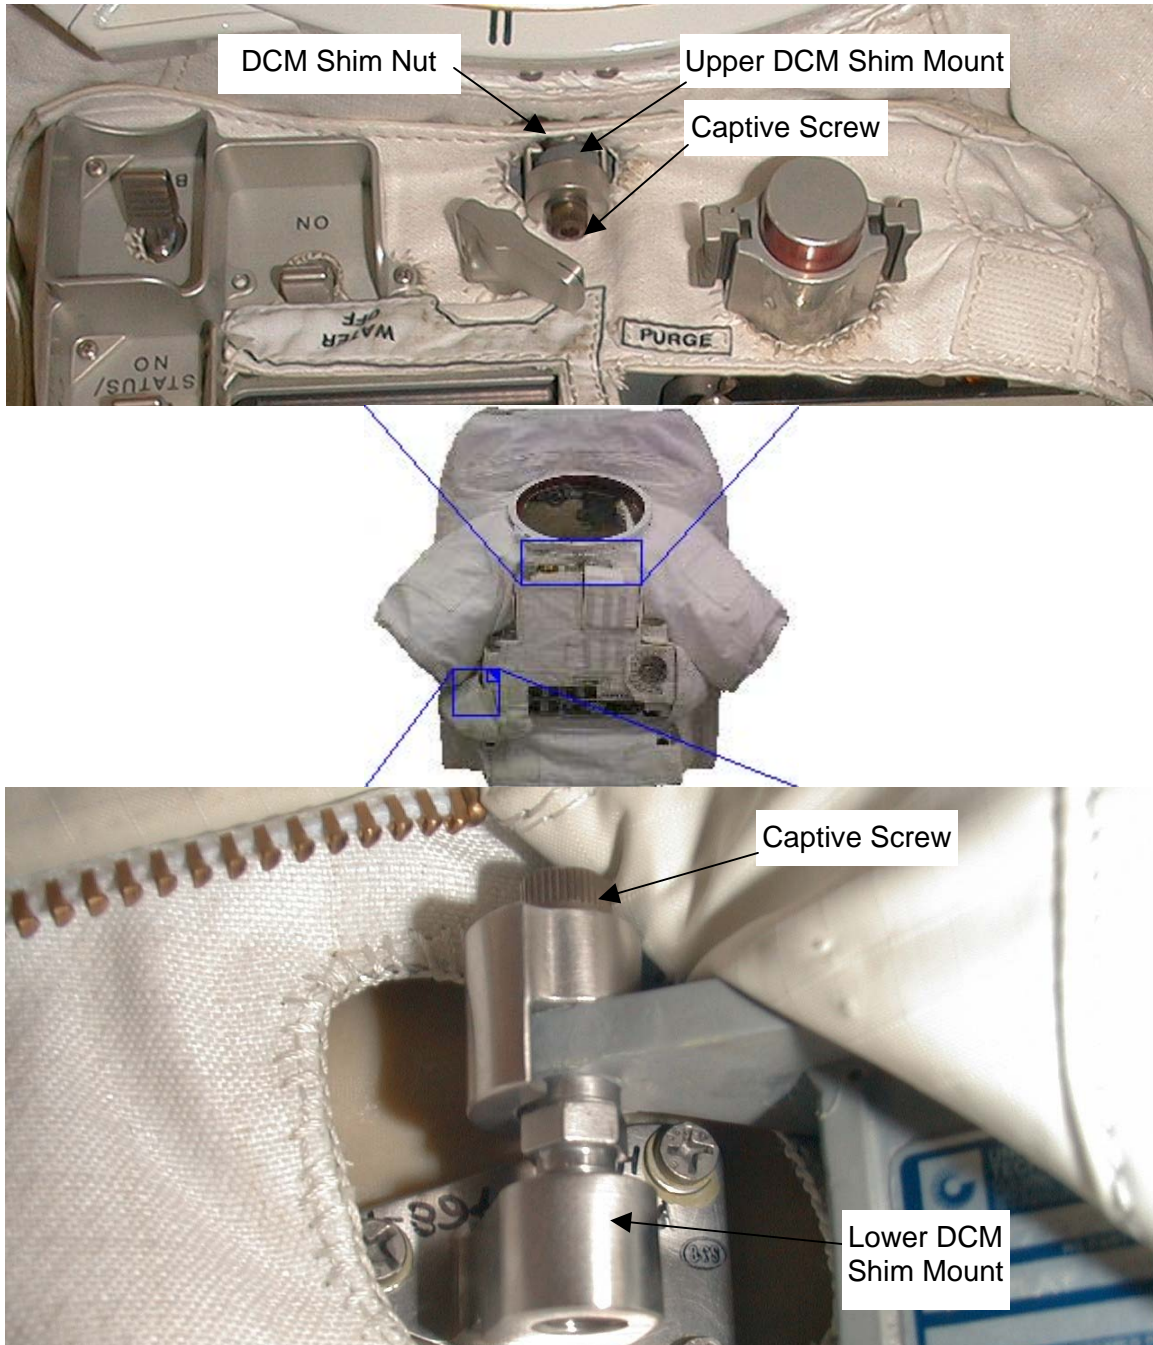

Figure 2.- Upper and Lower DCM Shim Mounts.
7. Captive screws (two) ↺ until loose from the upper and lower DCM shim mounts using 5/32" x 5" Ball Nose Driver with 3/8" Drive Ratchet. Refer to Figure 2.